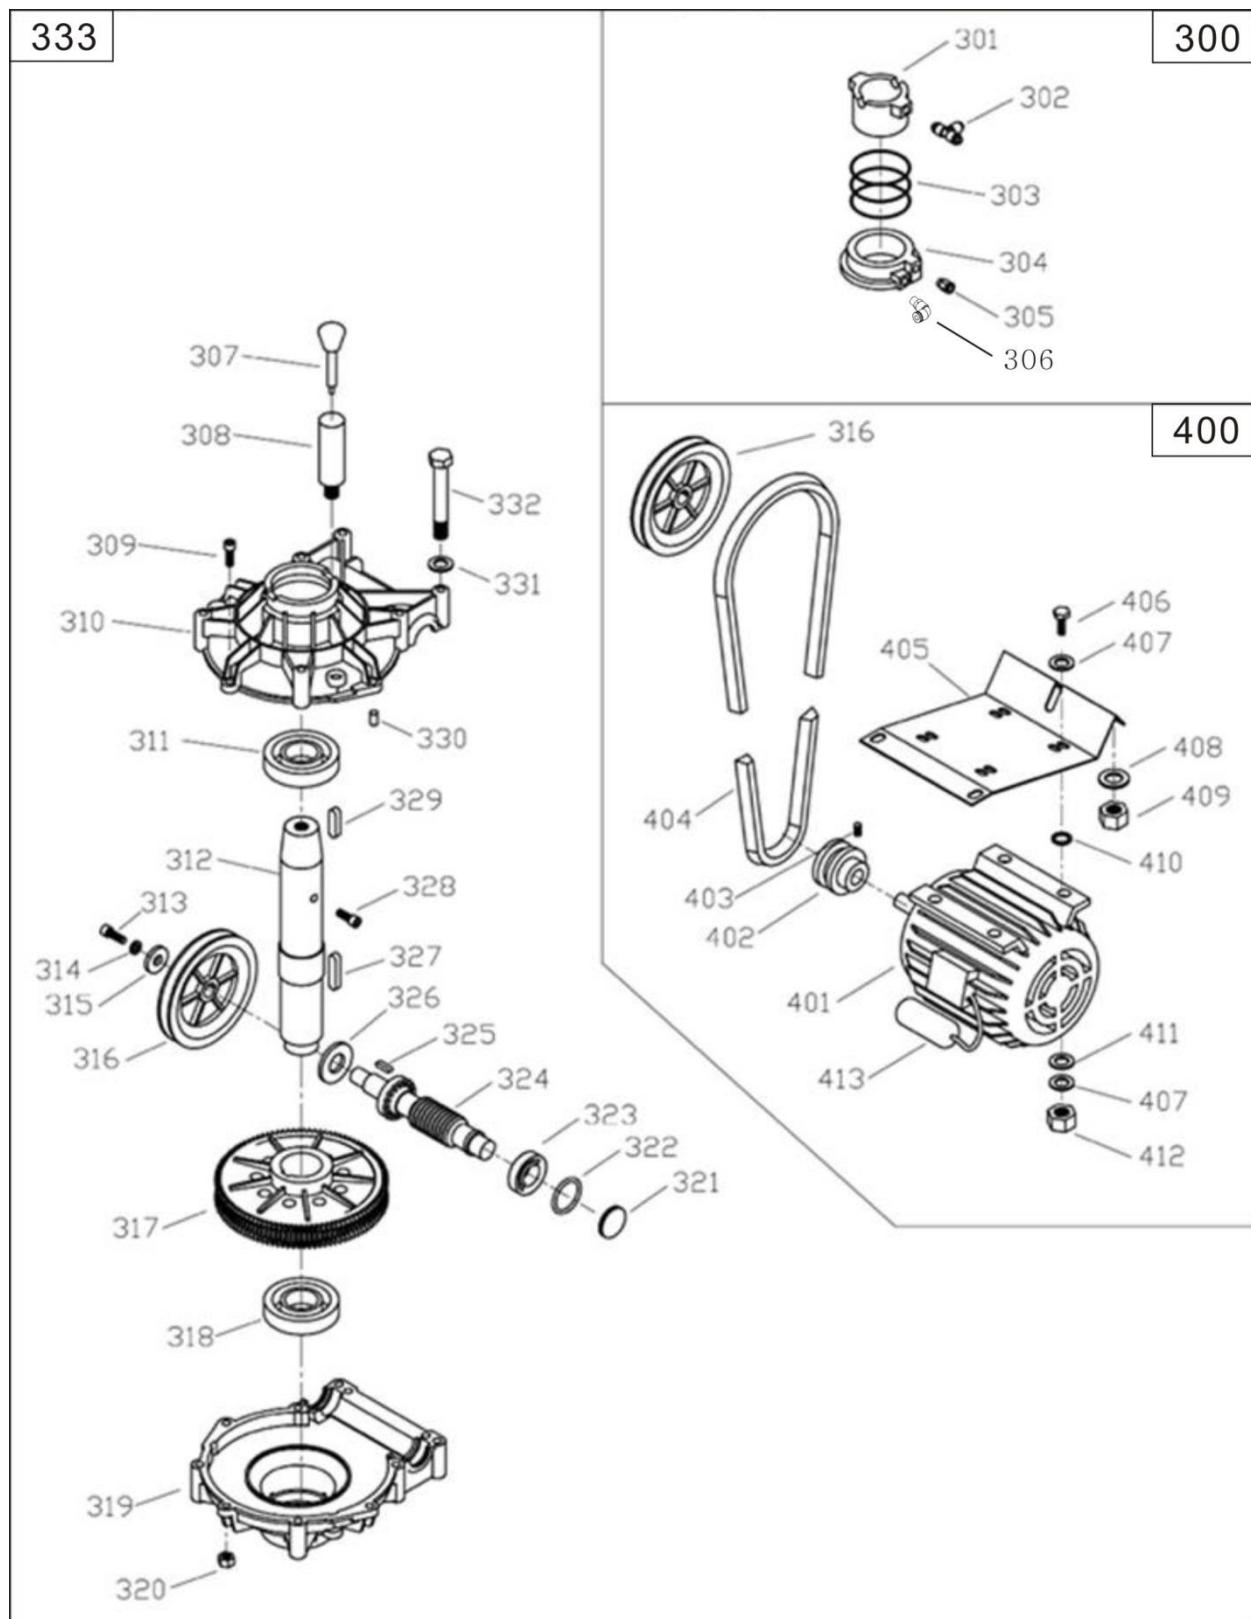

Fig. 36
**2053301 Parts of Rotating Valve Assembly (Fig.36)**
**2064938 Parts of Gearbox assemble (Fig.36)**
**2012501 Parts of motor assembly (Fig.36)**